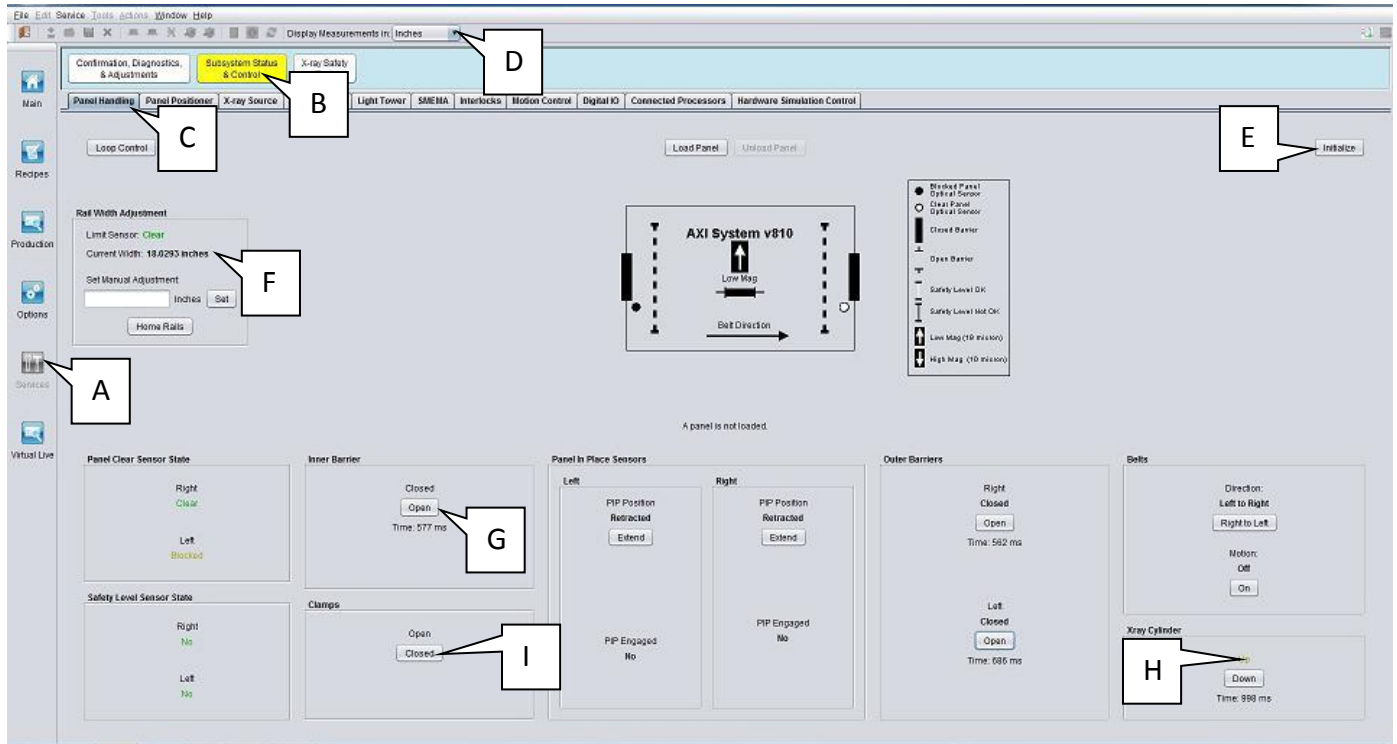

Figure 5
8. Go to Panel Handling tab and initialize as show in Figure 5. Change display measurement unit to inch and set AWA rail width to 26 inch. Trigger Inner Barrier in Open position, tube cylinder to “Up” position and Clamp in Open position.